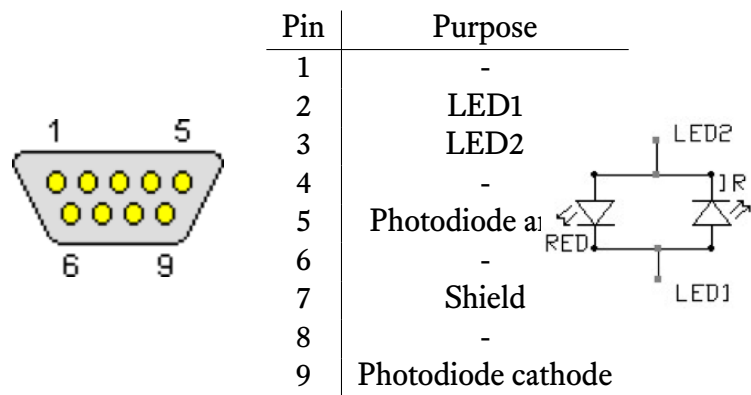
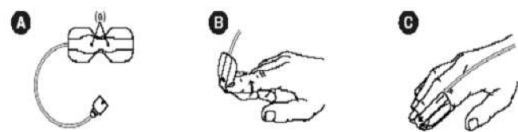

Figure 1: Nellcor Oxisensor II DB9 connector Pinout
Figure 2: How to apply probe
Pulse oximeters are used in many monitoring and diagnostic applications. Of particular interest is data acquisition of beat intervals. Surprisingly, in a healthy individual, the intervals between successive heartbeats vary in a rather chaotic manner. It has been reported that patients with congestive heart failure (CHF) have decreased cardiac chaos as compared to healthy individuals (see the attached paper by Poon and Merrill, especially Fig. 1). CHF patients are found to have similar chaotic heartbeat interval except “frequently interrupted by periods of seemingly non-chaotic fluctuations.” Thus, a frequency spectrum (obtainable by FFT) will not sufficiently reveal these periods of regular heartbeat intervals (refer to Fig. 1c of Poon and Merrill). Calculations of beat intervals directly can enable quantification of regularity of inter-beat times. You will use your pulse oximeter to make these measurements and quantify this regularity.
The Nellcor Oxisensor uses a DB9 connector (refer to Fig. 1 for pinout information). It can be directly connected to the ELVIS II breadboard and can be attached to a finger, as shown in Fig. 2. The oxisensor consists of a red LED, an infrared (IR) LED, and a photodiode to measure light signal from both LEDs. The red LED is used for pulse measurement and the IR LED for oxygen content measurement.